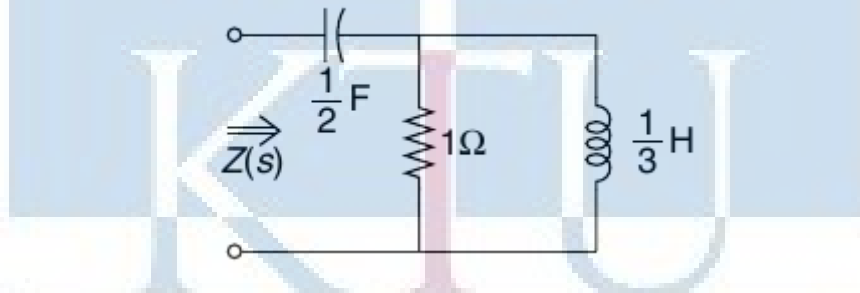

Figure 8: Figure for question 18 (b).
17. (a) Test the following polynomials for the Hurwitz property: (6)
- (b) Determine whether the following functions are positive real or not: (8)
18. (a) Find the limits of K so that the polynomial  $s^3 + 14s^2 + 56s + K$  may be Hurwitz. (6)
- (b) Find the driving point impedance  $Z(s)$  in the form  $K \frac{N(s)}{D(s)}$  for the network shown in Fig. 8. Verify that  $Z(s)$  is positive real and that the polynomial  $D(s) + KN(s)$  is Hurwitz. (8)